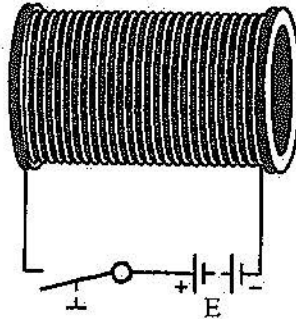

Figure 1
11. Neatly reproduce (or cut and paste) the diagram of figure 1 on your answer sheet. For the diagram of figure 1,
If a coil is connected to a battery as in figure 1, then the energising current produces a magnetic flux which links the coil.